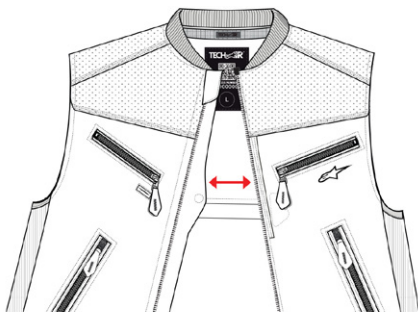

Figure 10
To keep the System switched off, keep the Activation Zip (1) open as shown in Figure 10. Always keep the System in this condition while stored, transported, or shipped (see Section 14 "Cleaning, Storage and Transportation").